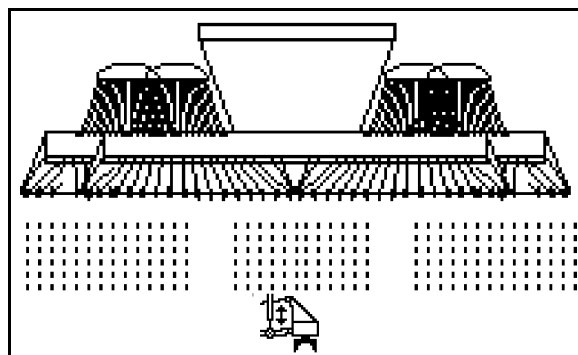

Fig. 54
1. Preselect **KG** (Fig. 54).